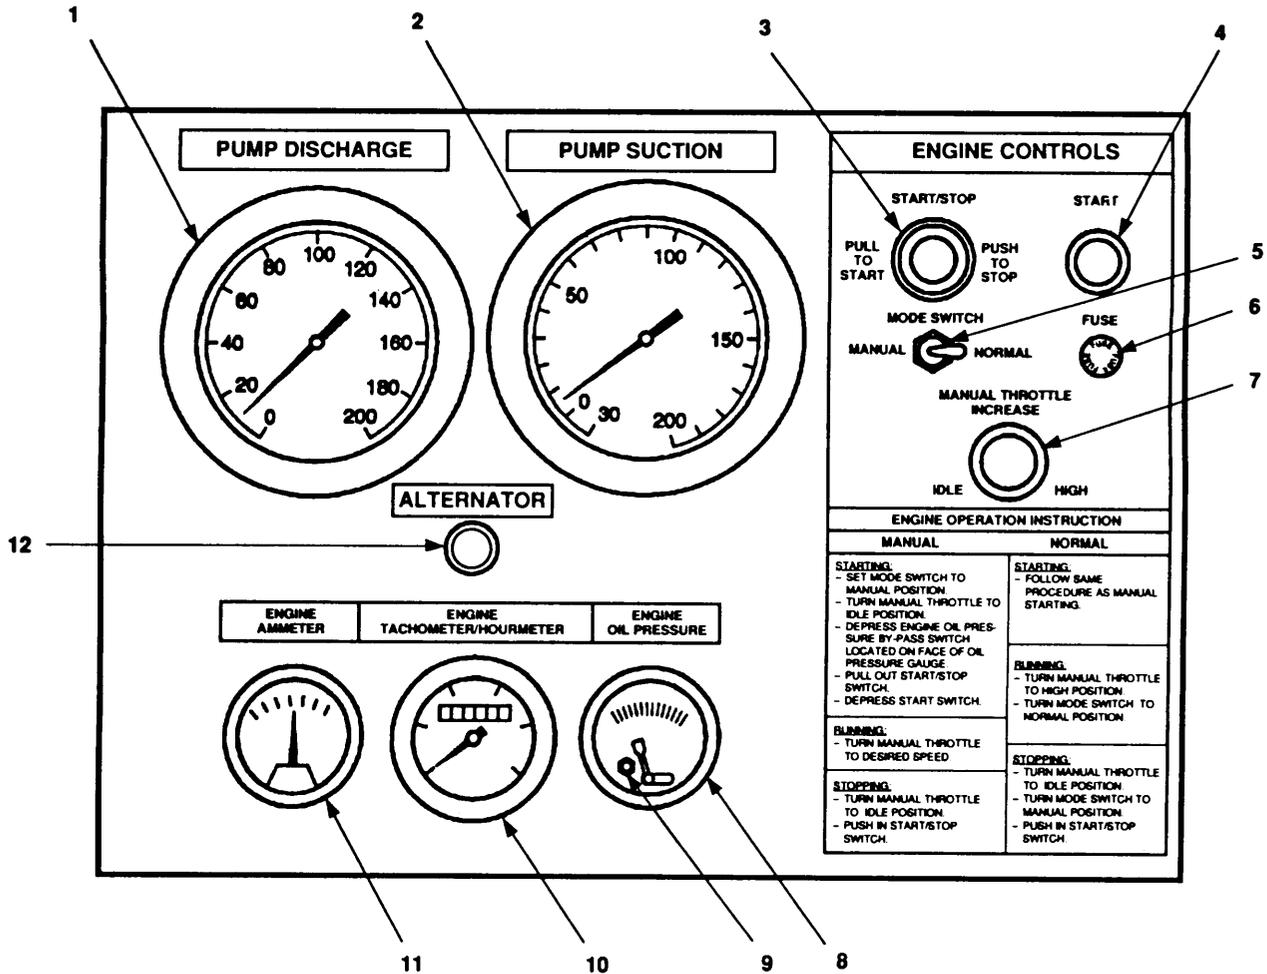

Figure 2-8. Model US636HCCD-1 Control Panel.
2.1.3.1 Control Panel. Refer to Figure 2-8 and Table 2-8.